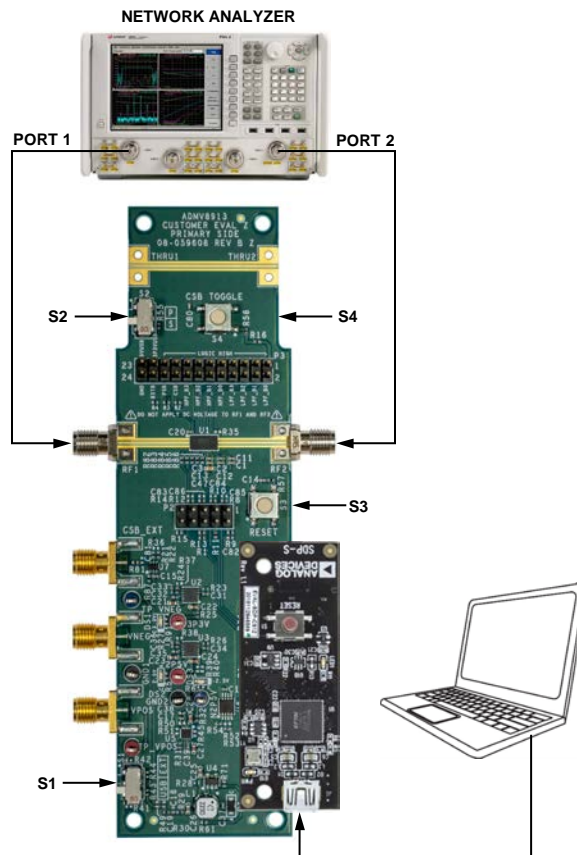

Figure 2. Lab Bench Setup for the ADMV8913-EVALZ
To power the ADMV8913-EVALZ using the 5 V USB supply, slide the S1 switch down (as shown in Figure 2) to power the on-board negative voltage generator and LDO regulators. Alternatively, the ADMV8913-EVALZ can be powered externally by sliding the S1 switch up and then connecting power supplies to the VPOS and VNEG Subminiature Version A (SMA) ports or test points. The applicable voltage range for the positive input VPOS is between 3.5 V and 5.5 V, and the applicable voltage range for the negative input VNEG is between -5.5 V and -2.7 V.
To set the filter state of the ADMV8913, there are two options, serial mode and parallel mode. Slide the S2 switch down (as shown in Figure 2) for serial mode and up for parallel mode. The serial mode utilizes the ACE software and the SDP-S controller to program the chip using a 4-wire SPI. The parallel mode allows the filter to be programmed without software by supplying logic states to the parallel logic input pins using the P3 connector and then latching in that data by pressing the **CSB Toggle S4** button.
Figure 2 shows an example lab bench setup for the ADMV8913-EVALZ. To observe the filter response from the ADMV8913-EVALZ, connect the RF1 and RF2 ports to a network analyzer (or similar instrument). Typically, RF1 and RF2 are connected to Port 1 and Port 2 on the network analyzer, as shown in Figure 2.
1. Connect the RF1 and RF2 ports to a network analyzer (or a similar instrument). Typically, RF1 and RF2 are connected to Port 1 and Port 2 on the network analyzer, as shown in Figure 2.
3. On the ADMV8913-EVALZ, slide the S2 switch down (as shown in Figure 2) to select the SPI.
4. On the ADMV8913-EVALZ, slide the S1 switch down (as shown in Figure 2) to power the ADMV8913-EVALZ from the 5 V USB supply voltage from the PC via the SDP-S.